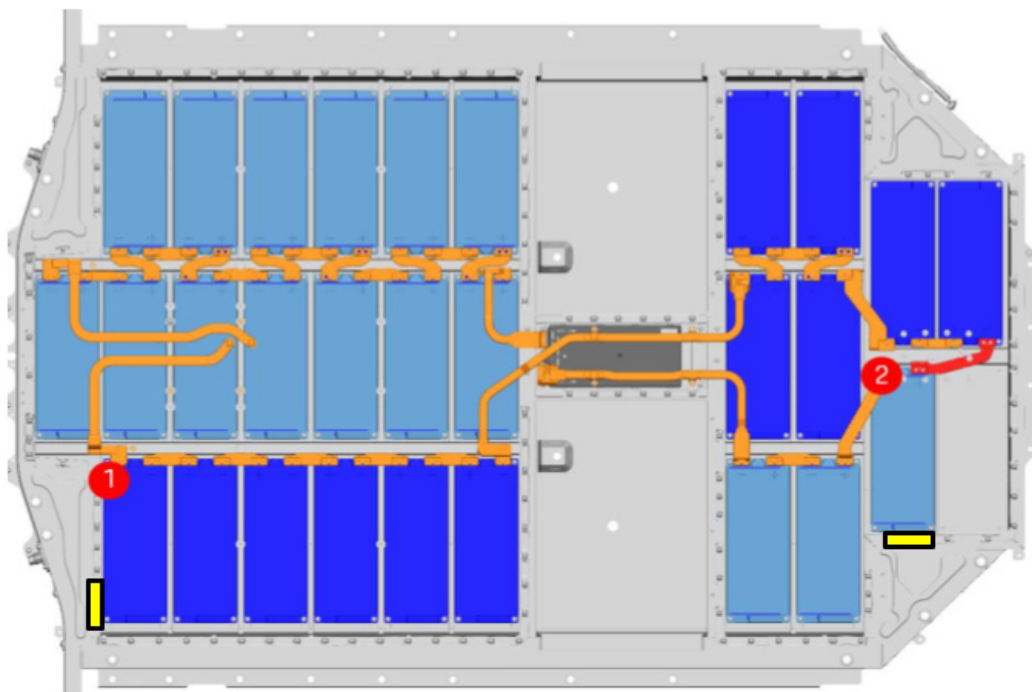

Figure 1 - 28-module HV Battery measurement points
- Grounding points for DST and IR testing on both 28- and 33-module Taycan battery packs have been modified from WM 270803A5 and are detailed below in *figures 1 and 2*.
DST Procedure for 28-module Taycan Battery Pack (Figure 1)
- The yellow boxes in *Figure 1* designate the sections of laser clean surface (silver stripe) to contact using the negative probe to ground the dielectric strength tester. This method ensures consistency in testing.
- Perform IR tests at each measurement point in *Figures 1 and 2* before and after a DST at that point.
- Discharge capacitance and remove all the busbars from modules of failed section(s) differentiated by light and dark blue in *Figures 1 and 2*.